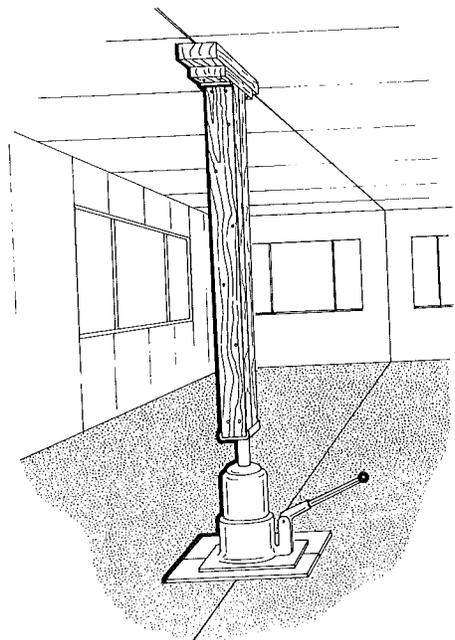

Figure 9
9. By carefully inspecting the ceiling or using a straight edge, low points can be determined. To raise the low portion, use a wood member such as a 2 x 4 or a steel pipe placed on the top of a hydraulic jack. A second piece of 2 x 4 properly padded is placed on top the vertical posts and directly underneath the low point. See Figure 9.